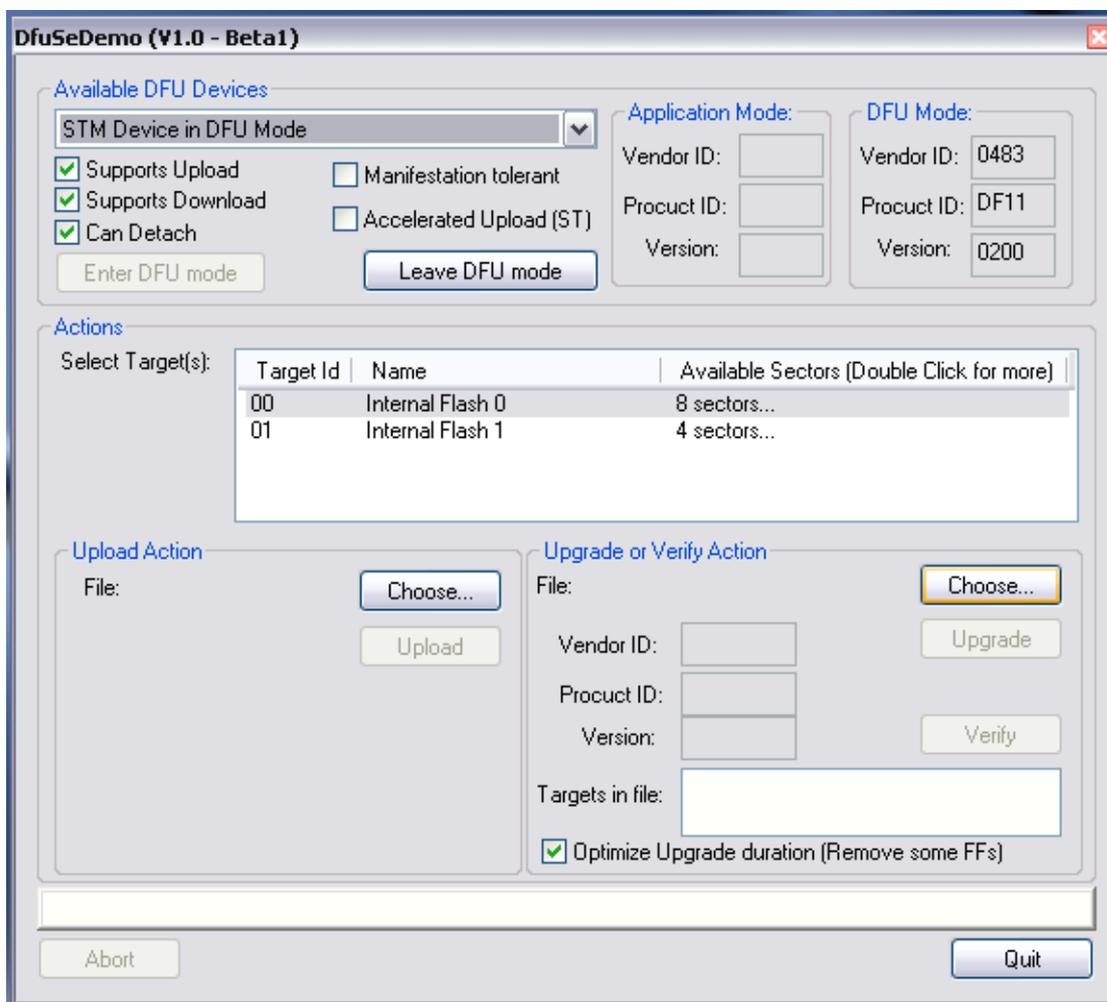

fig.1
- Now you must connect the USB cable (type "A-male / A-male") from the PC to TE808. If we need to install the USB driver, this is located in the installation folder of the program DfuSe (the USB driver file is "STDFU.INF"). If the connection is successful, the program will appear as in Figure 1.